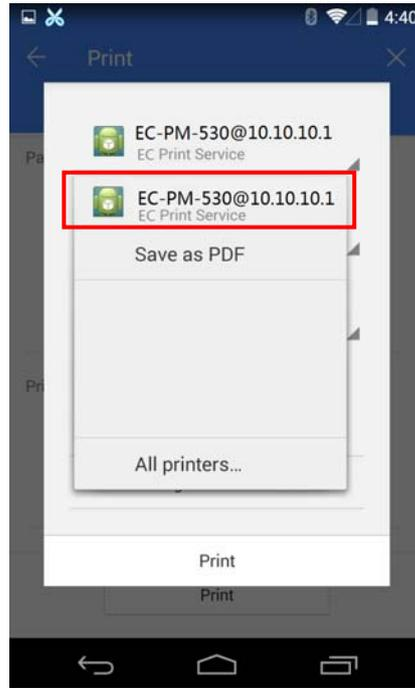

Figure 30
- 4.6 Select “EC-PM-530@10.10.10.1”, as shown in Figure 30.